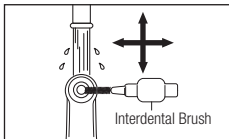

Fig. 11
- 2) Clean around the bur insertion hole for 15 seconds or more, using an interdental brush (wire thickness 0.7mm) that conforms to size 4 in ISO 16409 (EN ISO 16409). (Fig. 11)